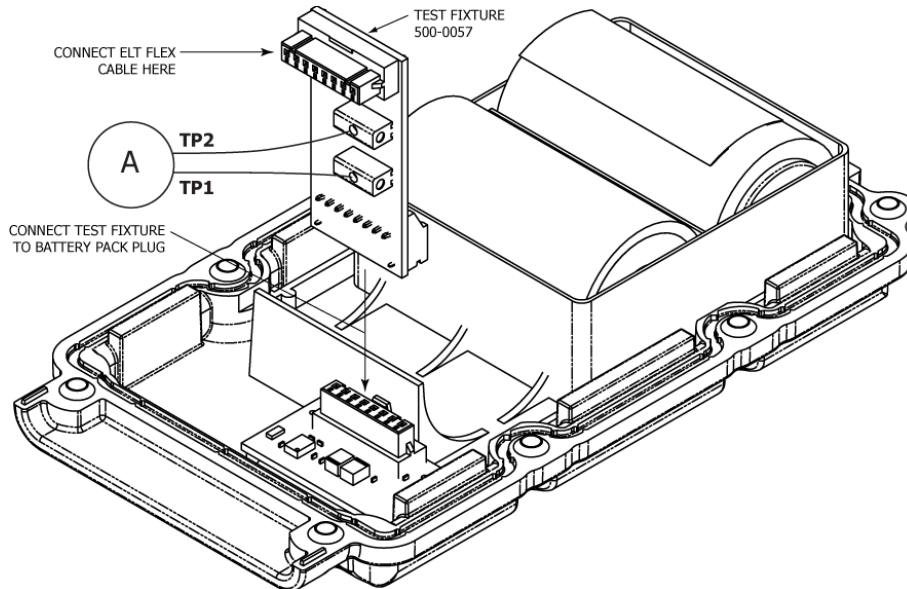

Figure 7 Current Draw Test Setup
- 3) Install test fixture 500-0057 in the power circuit in series between the battery pack connector and the ELT connector (see Figure 7 Current Draw Test Setup).